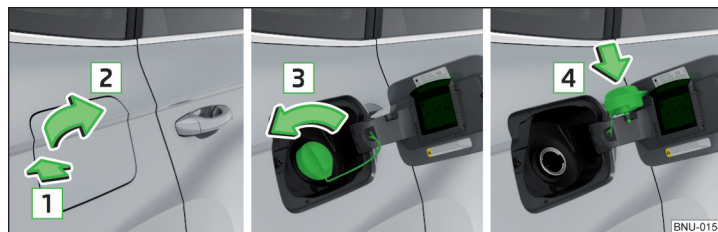

Fig. 302 Open fuel filler flap / unscrew tank cap / place the tank cap on the fuel filler flap
- Press the fuel filler flap in the direction of arrow **1** and open it in the direction of arrow **2** » Fig. 302.